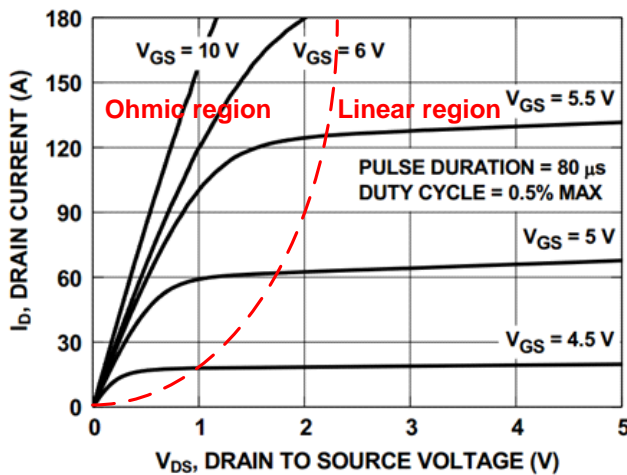

Figure 8. On-Region Characteristics
- Limited by the thermal run away in the linear region, Figure 8 shows the I_D as the function of the V_{DS} at a given V_{GS} . The on-state operation of a MOSFET is divided into the ohmic region and the linear region, defined by $V_{DS} = V_{GS} - V_{GS(th)}$ as the boundary line. In the ohmic region, located to the left of the boundary line ($V_{DS} < V_{GS} - V_{GS(th)}$); the I_D is defined by Ohm's law and increases linearly with the incremental drain voltage. In the linear region, to the right of the boundary line ($V_{DS} > V_{GS} - V_{GS(th)}$); the I_D differs by the V_{GS} , not by V_{DS} . For example, when the V_{DS} is 4 V and V_{GS} is 4.5 V, the FDMS86101A operates in the linear region and its I_D stays at around 17 A. To increase I_D , a higher V_{GS} should be applied to the gate.